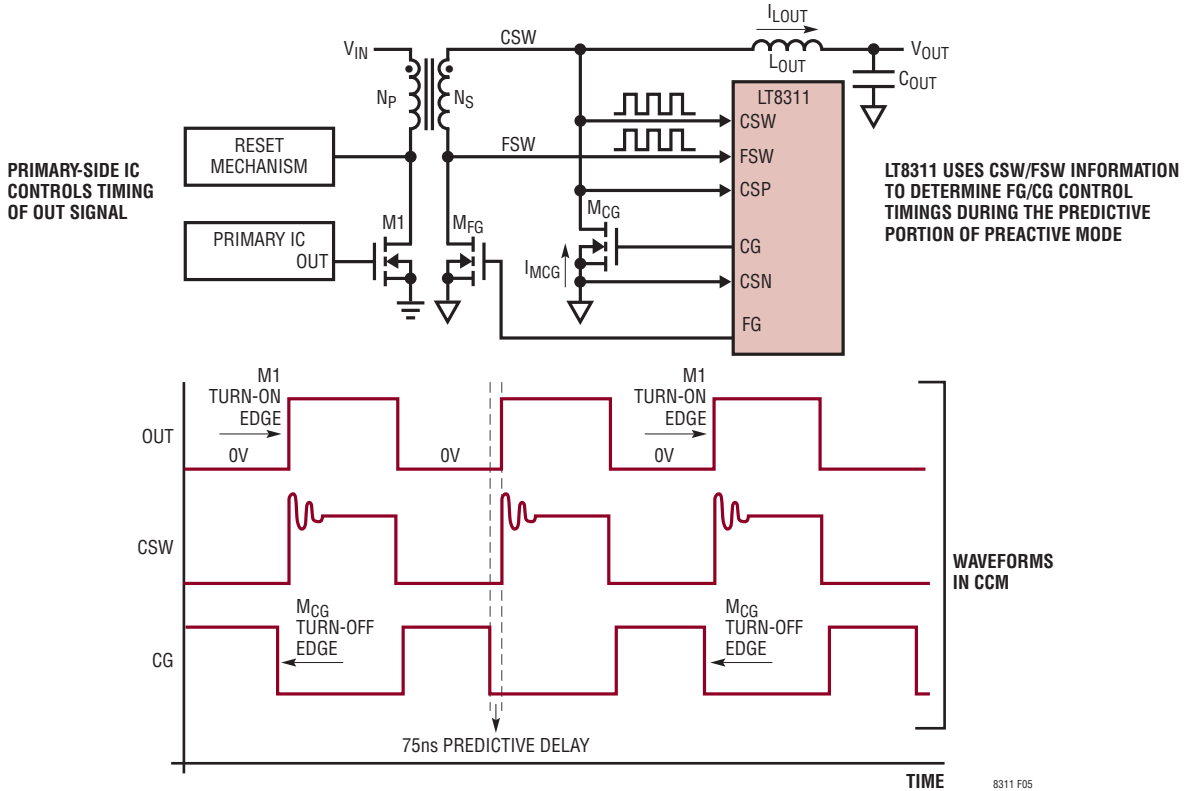

Figure 5. During the Predictive Portion of Preactive Mode, the LT8311 Phase Locks into the CSW Rising Edge and Turns Off MCG 75ns Prior to This Edge
"Preactive" is short for "predictive" + "reactive". In preactive mode, the LT8311 controls the secondary synchronous MOSFETs without any communication from the primary-side IC. In preactive mode, the catch MOSFET,  $M_{\text{CG}}$ , is turned on (CG rising edge in Figure 5) when the voltage on its drain, CSW, is detected to be below  $-150\text{mV}$ , and the forward MOSFET,  $M_{\text{FG}}$ , is detected to be off.  $M_{\text{CG}}$  is turned off when the first of two events after  $M_{\text{CG}}$ 's turn-on occurs:
- **Predictive  $M_{\text{CG}}$  Turn-Off** (Figure 5): In predictive turn-off, the LT8311 predicts when M1 will turn on in the next cycle, and turns off  $M_{\text{CG}}$  100ns prior to this event. Predictive turn-off of  $M_{\text{CG}}$  prevents cross conduction between  $M_{\text{CG}}$  and M1. M1's turn-on timings are predicted by phase locking to the rising edge of present and past CSW cycles. Predictive turn-off relies on the periodicity of M1's turn-on edge, an inherent aspect of fixed-frequency operation. Furthermore, the predictive turn-off is designed to be independent of the duty cycle of the system, which allows  $M_{\text{CG}}$  to be correctly turned off, even during load/line transients. Predictive turn-off will typically be the dominant turn-off mechanism for  $M_{\text{CG}}$  in CCM.